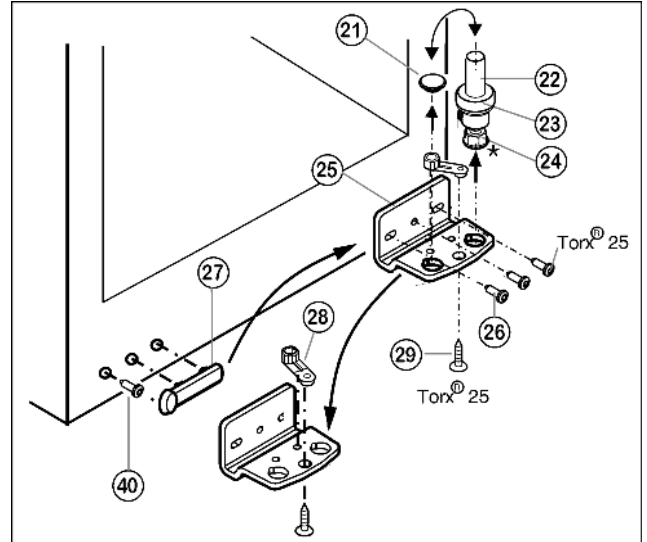

Fig. 5
- Lift out the bearing pin Fig. 5 (22) together with washer Fig. 5 (23) and adjustable-height foot* Fig. 5 (24).
- Lift off the stopper Fig. 5 (21).
- Unscrew Fig. 5 (26) the turn hinge Fig. 5 (25).
- Unscrew Fig. 5 (29) the bearing element Fig. 5 (28), transfer it to the opposite location hole of the turn hinge and screw it firmly into place.
- Carefully lift off the cover on the handle side Fig. 5 (27), undo the screw Fig. 5 (40) and transfer both to the opposite side.
- Screw the turn hinge Fig. 5 (25) firmly into place on the new hinge side, possibly using a cordless screwdriver (**with 4 Nm**).
- Re-insert the stopper Fig. 5 (21) into the other hole.
- Re-insert the bearing pin Fig. 5 (22) together with the washer and adjustable-height foot*. In so doing, pay attention that the locating lug points backwards
- Lift the stopper (33) out of the door bearing bush and transfer it.
- Dismantle the door handle (32), stoppers (33) and pressure plates* (34) and transfer to the opposite side.
- Place the door from above onto the lower bearing pin Fig. 5 (22).
- Insert the upper turn hinge (12) in the door on the new hinge side.
- Screw the upper turn hinge (12) **firmly** into place (**with 4 Nm**) (2x Torx® 25) (13). Possibly make preliminary holes with a bradawl or use a cordless screwdriver.
- Snap the cover (10) and cover (11) into place at the opposite side.
- Align the door to the appliance housing by way of the two oblong holes in the bottom turn hinge Fig. 5 (25). To do so, unscrew the middle screw.